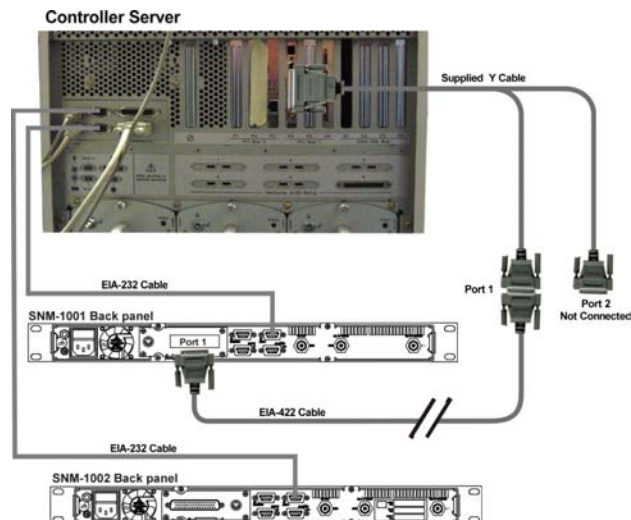

Figure 2-1. Installation of FASTCOM Card
2. Install the FASTCOM card in the PCI slot and plug in to the motherboard (see Figure 2-1).